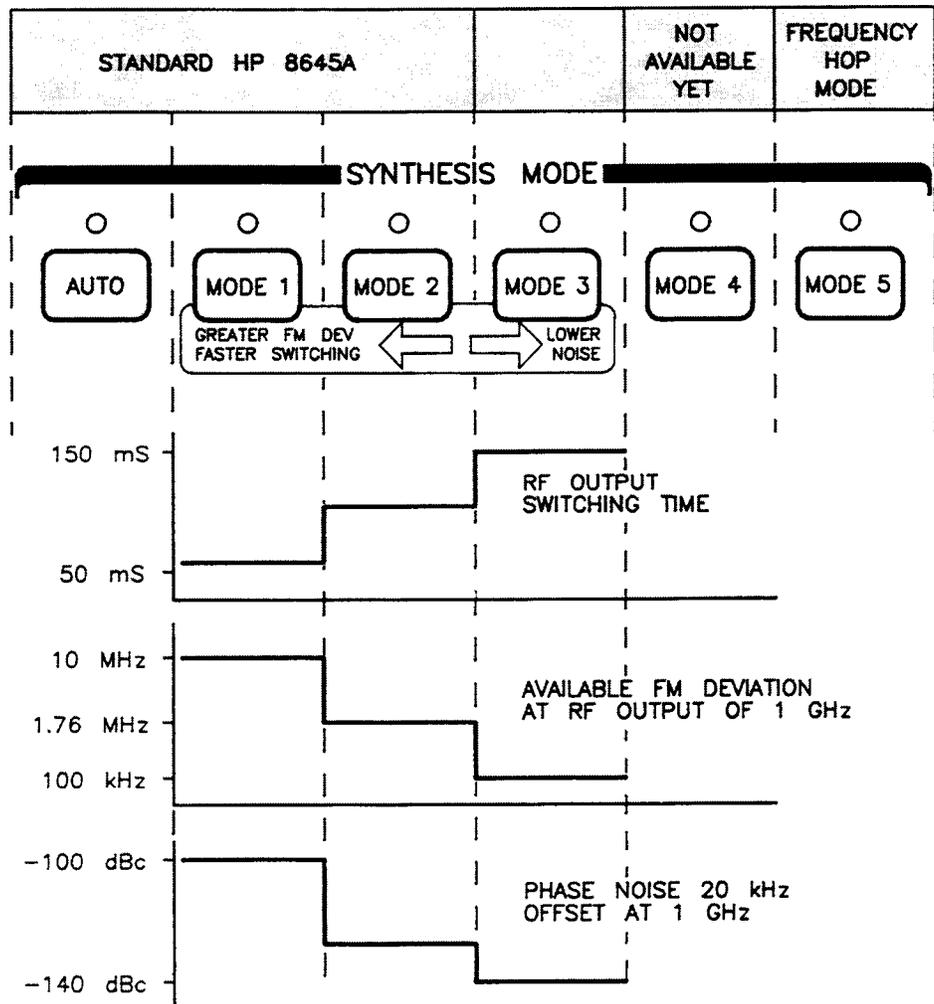

Figure 2-2. Modes of Operation for RF Output of 1 GHz.
In other applications, you may want the RF output to switch faster and have more FM deviation. In this case, press the Mode key of your choice to take the HP 8645A out of the Auto Select mode. There are three basic factors to consider when you choose a "mode of operation"—they are (1) switching speed, (2) FM deviation, and (3) phase noise. A typical comparison of these three factors for an RF output of 1 GHz is shown in figure 2-2: